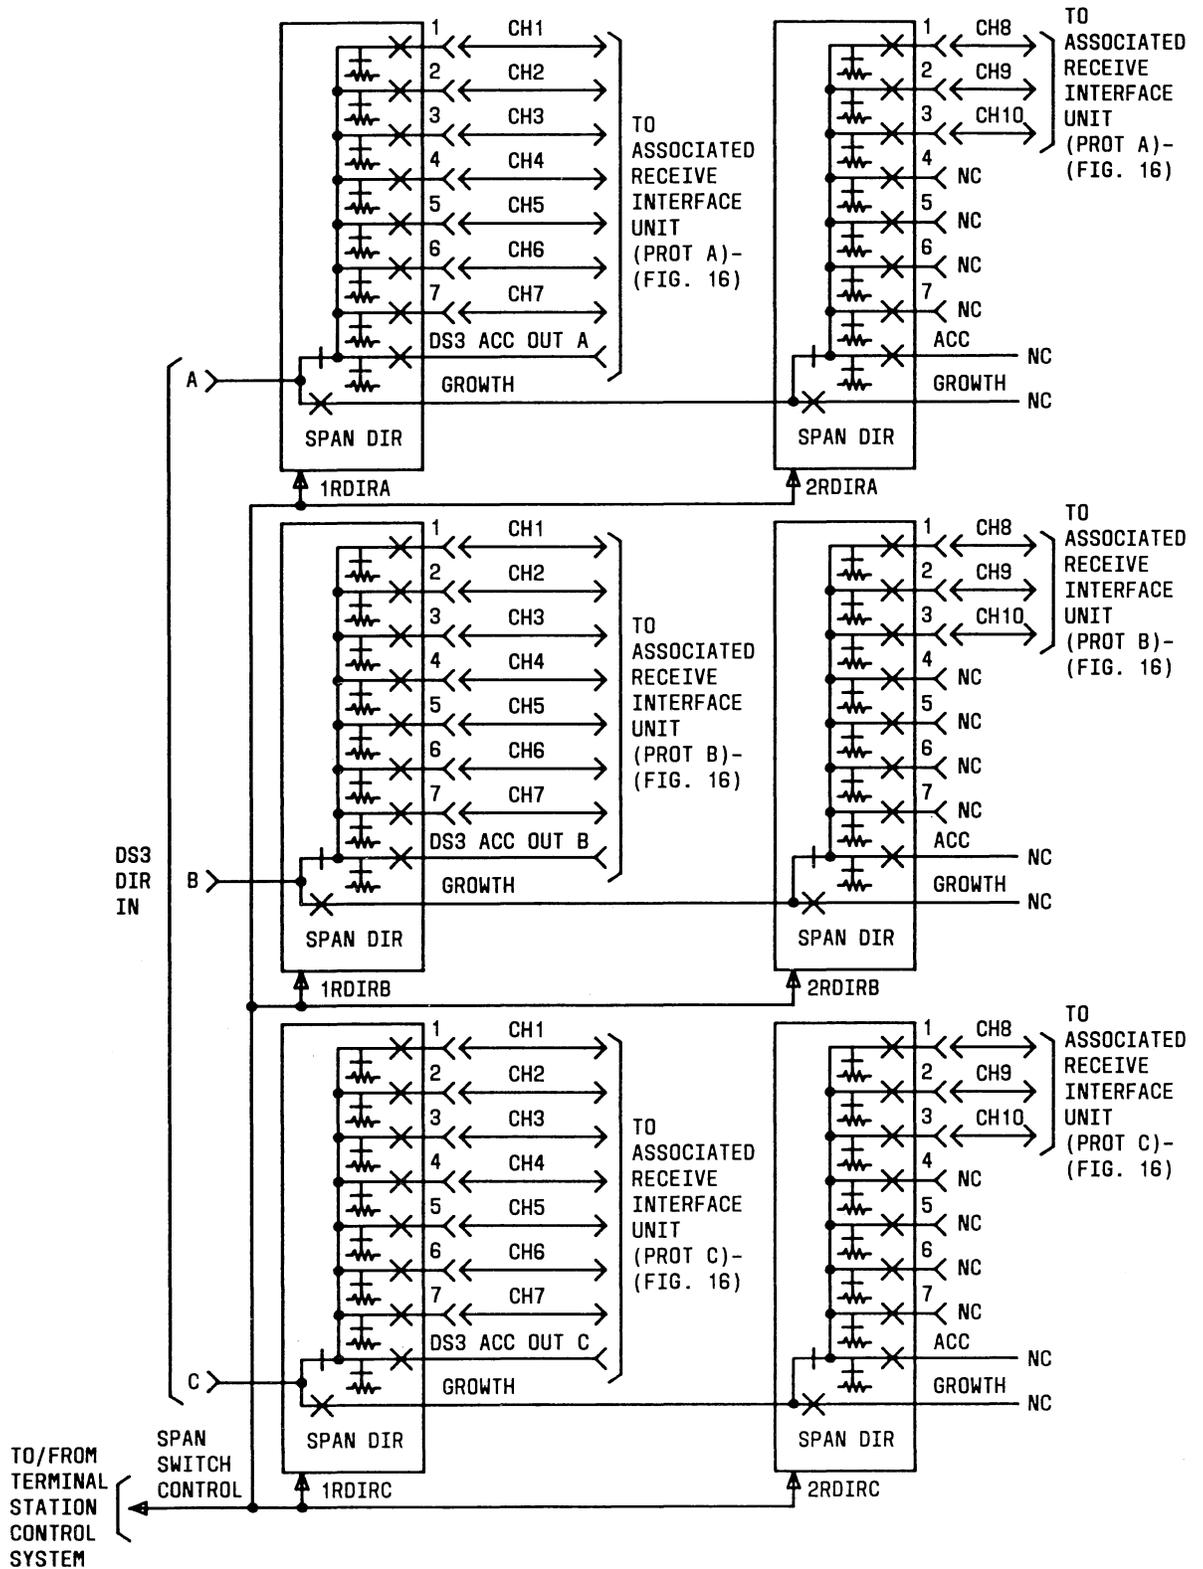

Fig. 15—Receive Growth Span Director Units
- Figure 15—Receive Growth Span Director Units